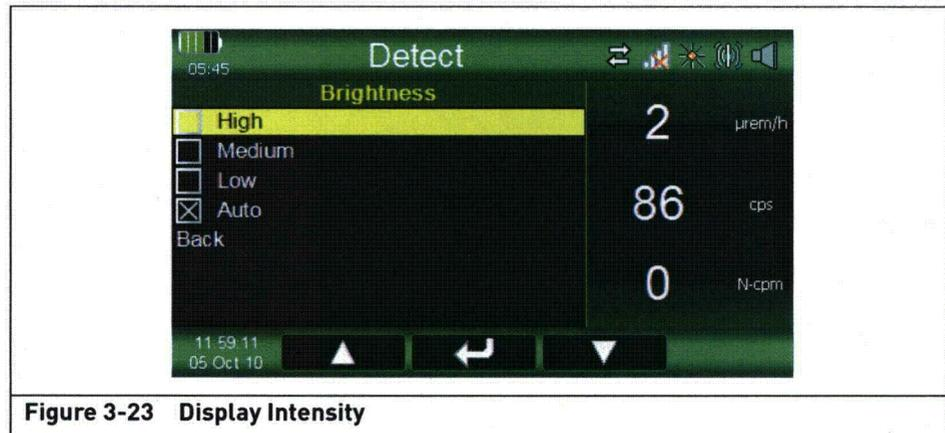

Figure 3-23 Display Intensity
4. Press the "Select" key. See Figure 3-23.